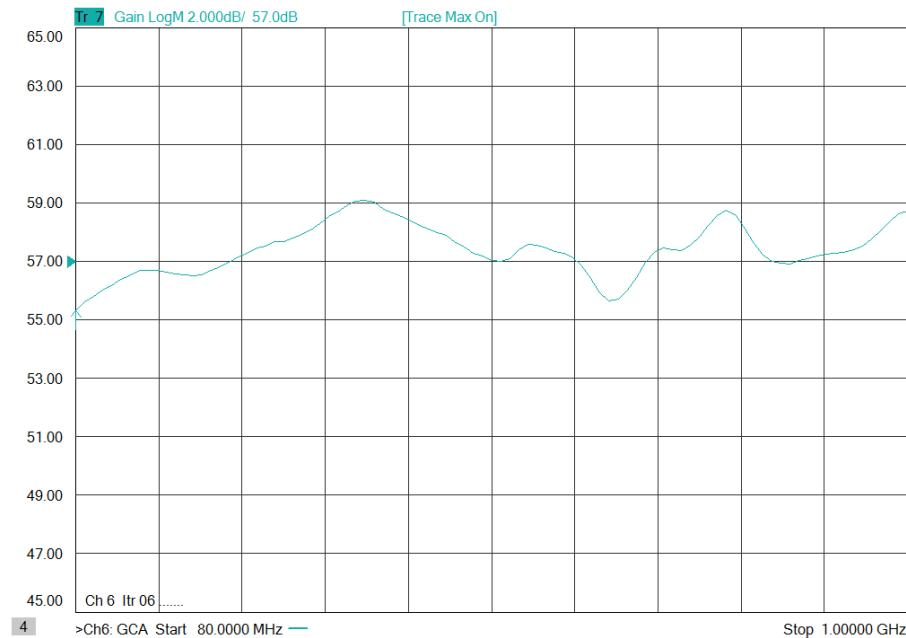
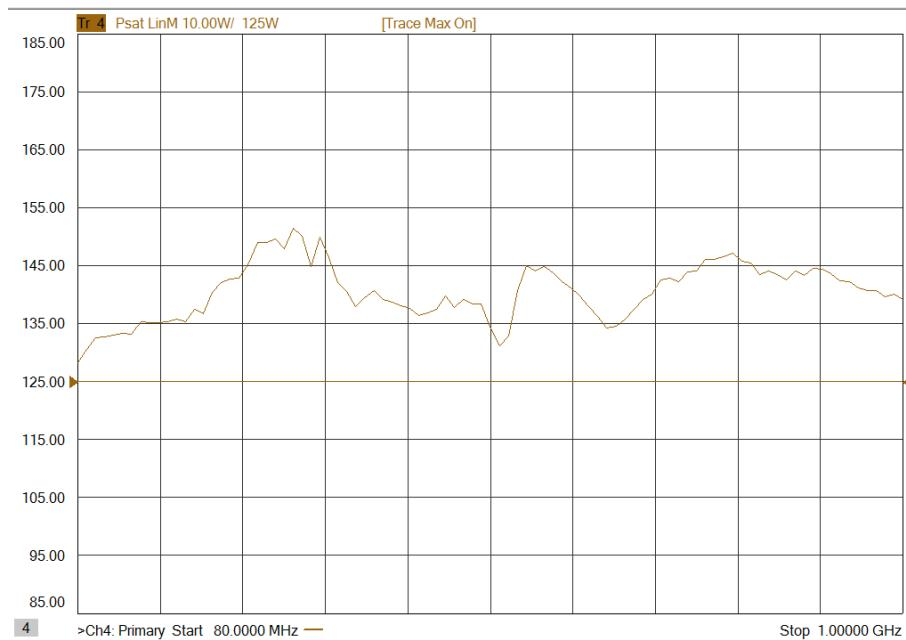

Figure 4-1. Typical Response at -20 dBm Input
Figure 4-2. Typical Response at 0 dBm Input
1. The Model 125W1000A's typical gain response at -20 dBm input and 0 dBm input is shown in Figure 4-1 and Figure 4-2. The actual gain may vary considerably from that shown in these Figures but should be ≥ 55 dB at -20dBm input and ≥ 51 dB (125 Watts) at 0dBm input.